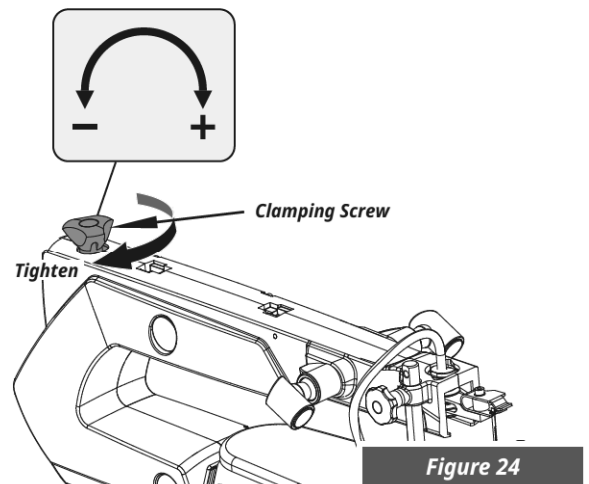

Figure 24
- Tighten the blade with the tightening screw by rotating it clockwise. Check the tightness of the blade. Keep on rotating clockwise in order to tighten the blade even more. (See Figure 24&25)